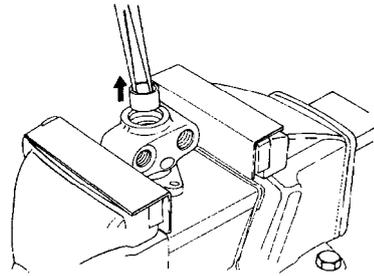

Figure 129 Removing the Piston
- e. Lift out the piston spring and, using long-nose pliers, remove the piston (Figure 129).